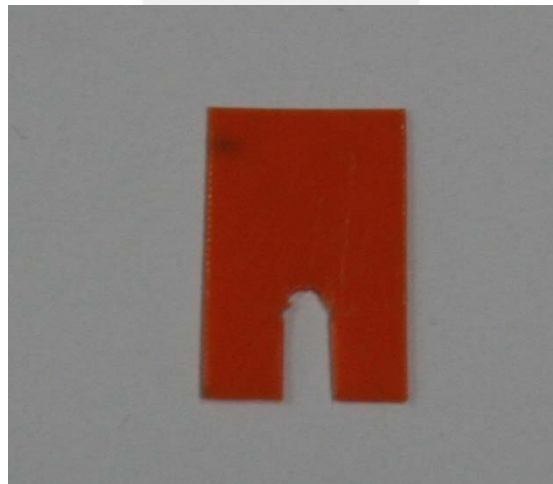

Figure 26
2. Extend the hole on both shims to the closest short (18 mm) edge (Figure 26).